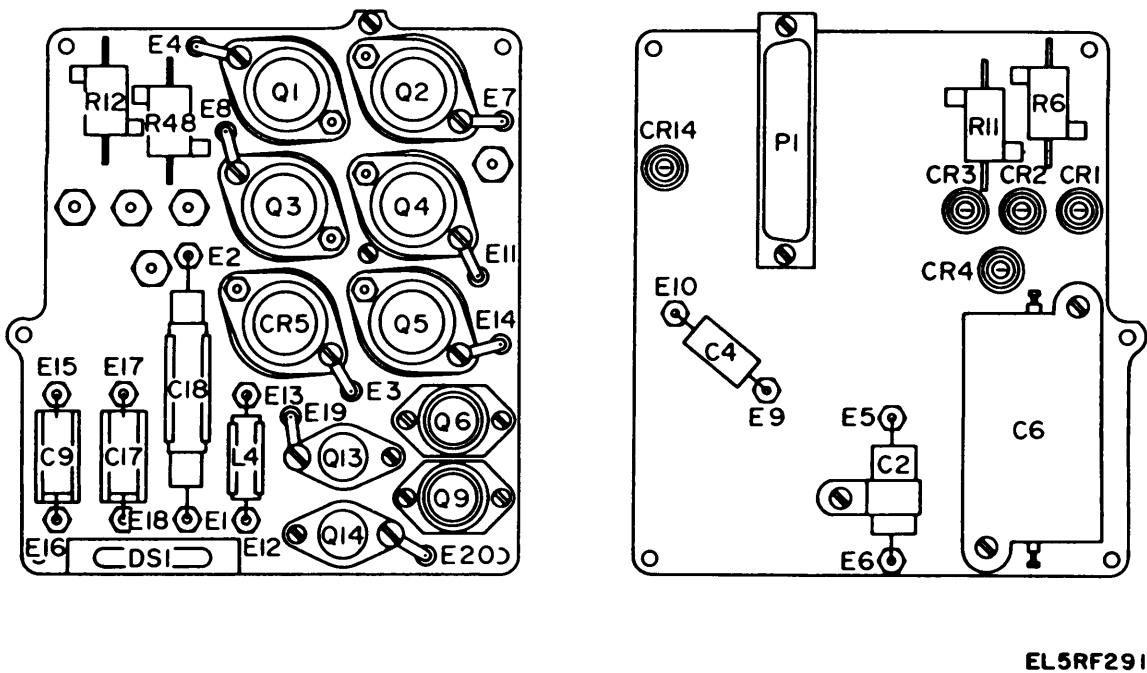

Figure 3-118. Power Supply Subassembly 5TR1PS1A2, Parts Location
d. Resistance Measurements (fig. 3-118).